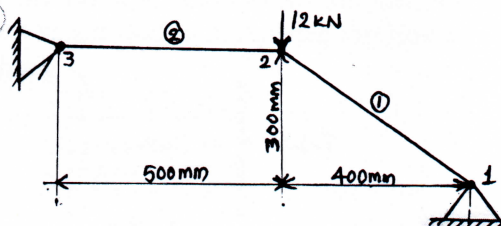

Fig Q3(b)
b. For the two bar truss shown in Fig Q3 (b). Determine the nodal displacement. Take $E = 200\text{GPa}$, $A_e = 200\text{ mm}^2$. (08 Marks)